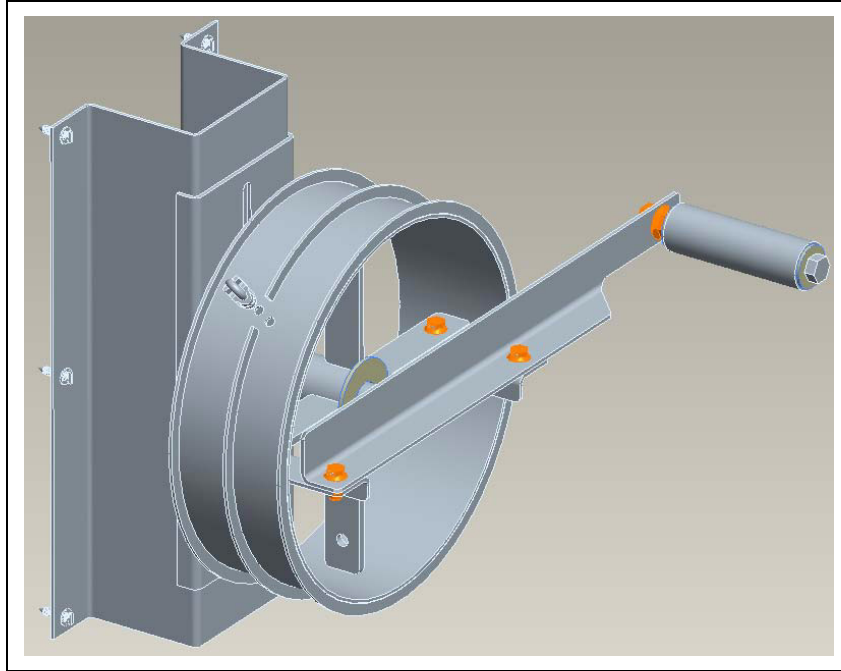

Figure 8
6. Completely open the discharge gate and wrap the cable six (6) times counterclockwise around the outside section (closest to you) of the discharge gate control wheel starting outside and working towards the middle. Use cable clamp to secure the cable to the control wheel. Cross the cable to the inside section of the discharge gate control wheel and wrap the cable two (2) times starting at the middle and working towards the outside. (See Figure 8.)